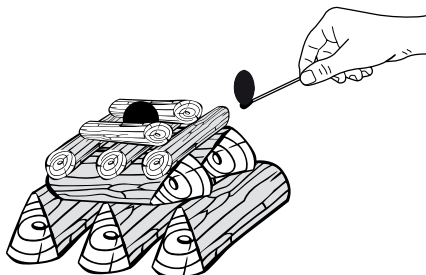

FIG. 7B
3. Place into the upper part of inserted wood (**FIG. 7B**), between the small pieces of wood, the stated ignition piece then ignite it.